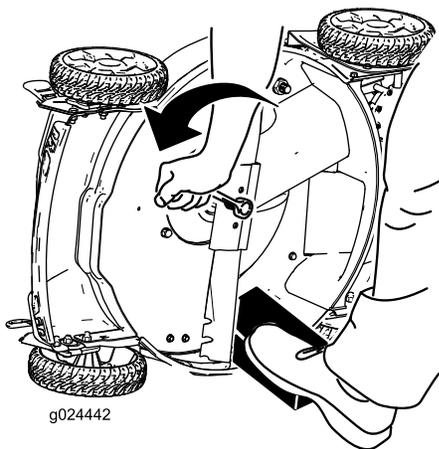

Figure 24
3. Use a block of wood to hold the blade steady (Figure 24).
4. Remove the blade by turning the blade bolt counterclockwise, saving all mounting hardware to install the new blade (Figure 24).